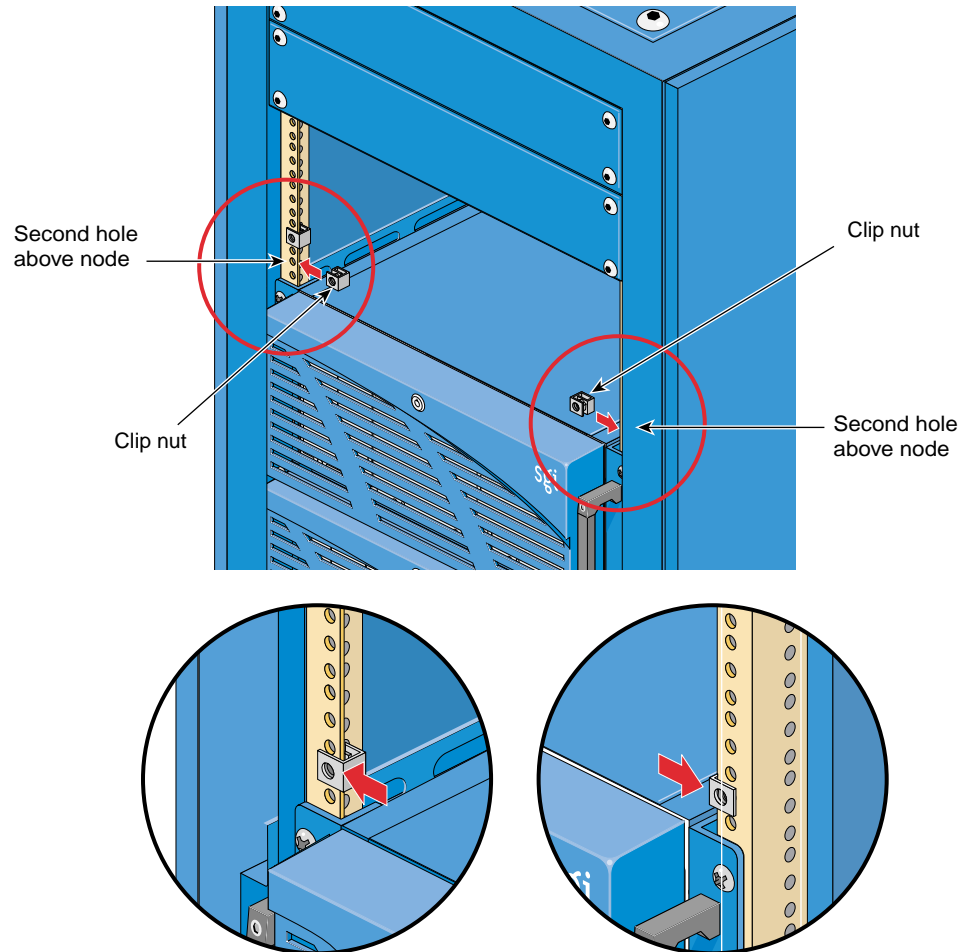

Figure 4-13 Attaching Clip Nuts
- Repeat for each slide on both sides of the rack. See Figure 4-13.